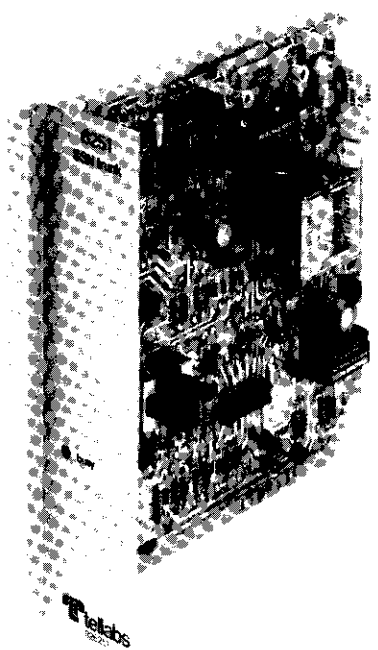

figure 1. 6251 SSN Trunk Module
1.01 The 6251 SSN Trunk module (figure 1) provides loop-to-E&M conversion for one-way trunk service between a Common Control Switching Arrangement (CCSA) Switched Service Network (SSN) trunk facility and a central-office (DDD) line circuit. Specifically, the 6251 provides conversion between Type I or Type II E&M signaling interface and a loop-start or a ground-start CO line circuit. While primarily intended to provide one-way service with regular local and toll completion capabilities for the SSN user, the 6251 may be used to accommodate two-way seizure in some applications.